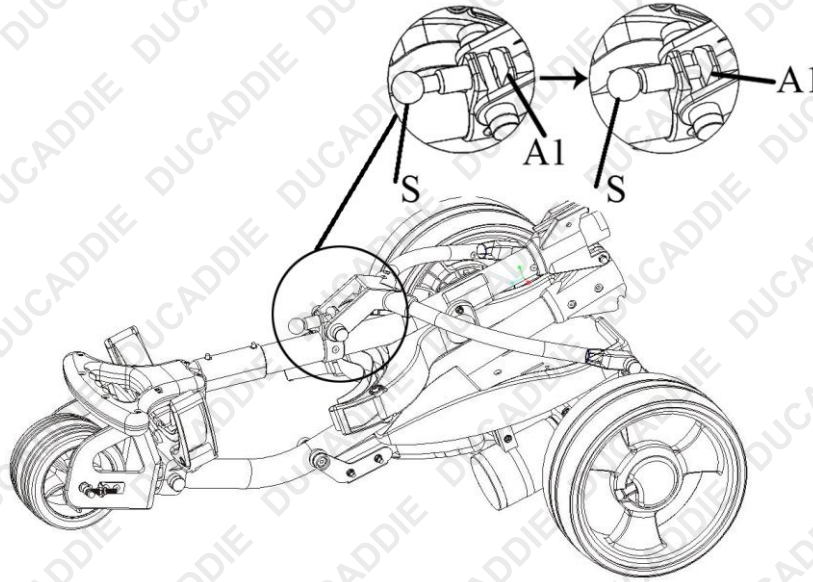
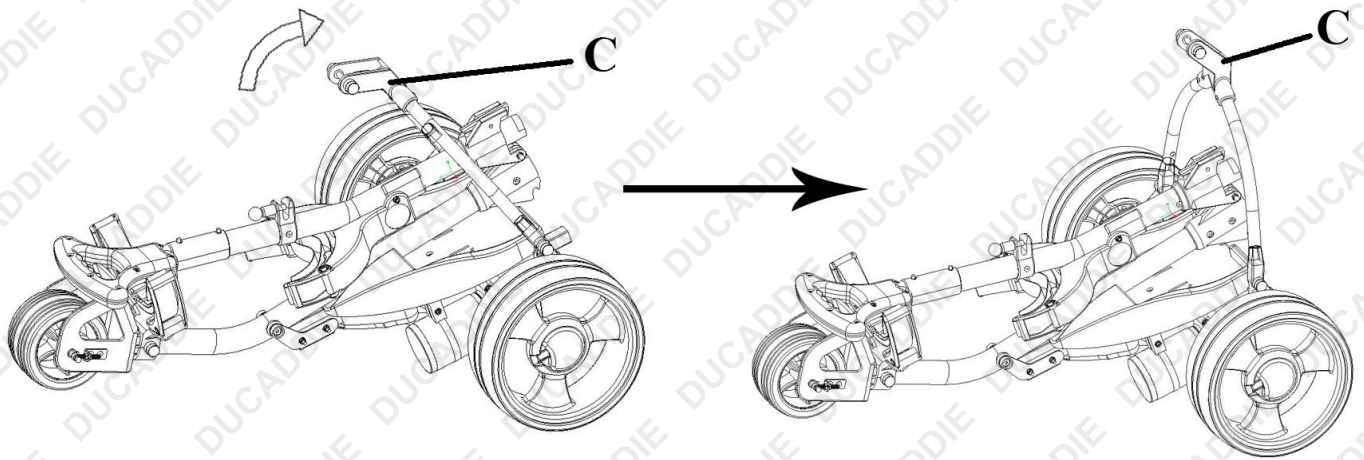

Fig 1
Fig. 2.
• Pull the lock (S) to the direction as shown in Fig 1. To release the lock bar and raise the middle Support Frame (C) to the upright position as shown in Fig. 2.